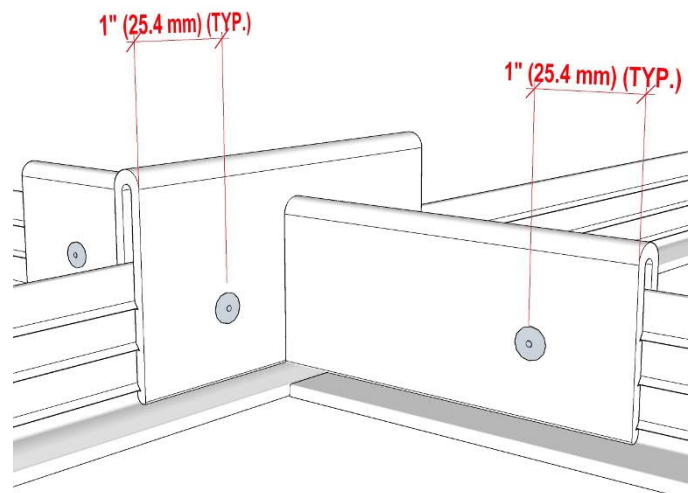

FIG. 26
2. The **Lock Rivets** and **Backup Washers** are installed with the **Clamps** and are to be drilled in the field as required. Once the **Clamp** is installed proceed to drill through the **Rail** and **Clamp** assembly at the location(s) as noted in this manual. These location positions are typical for all **Seismic Interlock**, **Seismic Overlock**, and **Seismic Offset Clamps**. FIG. 26